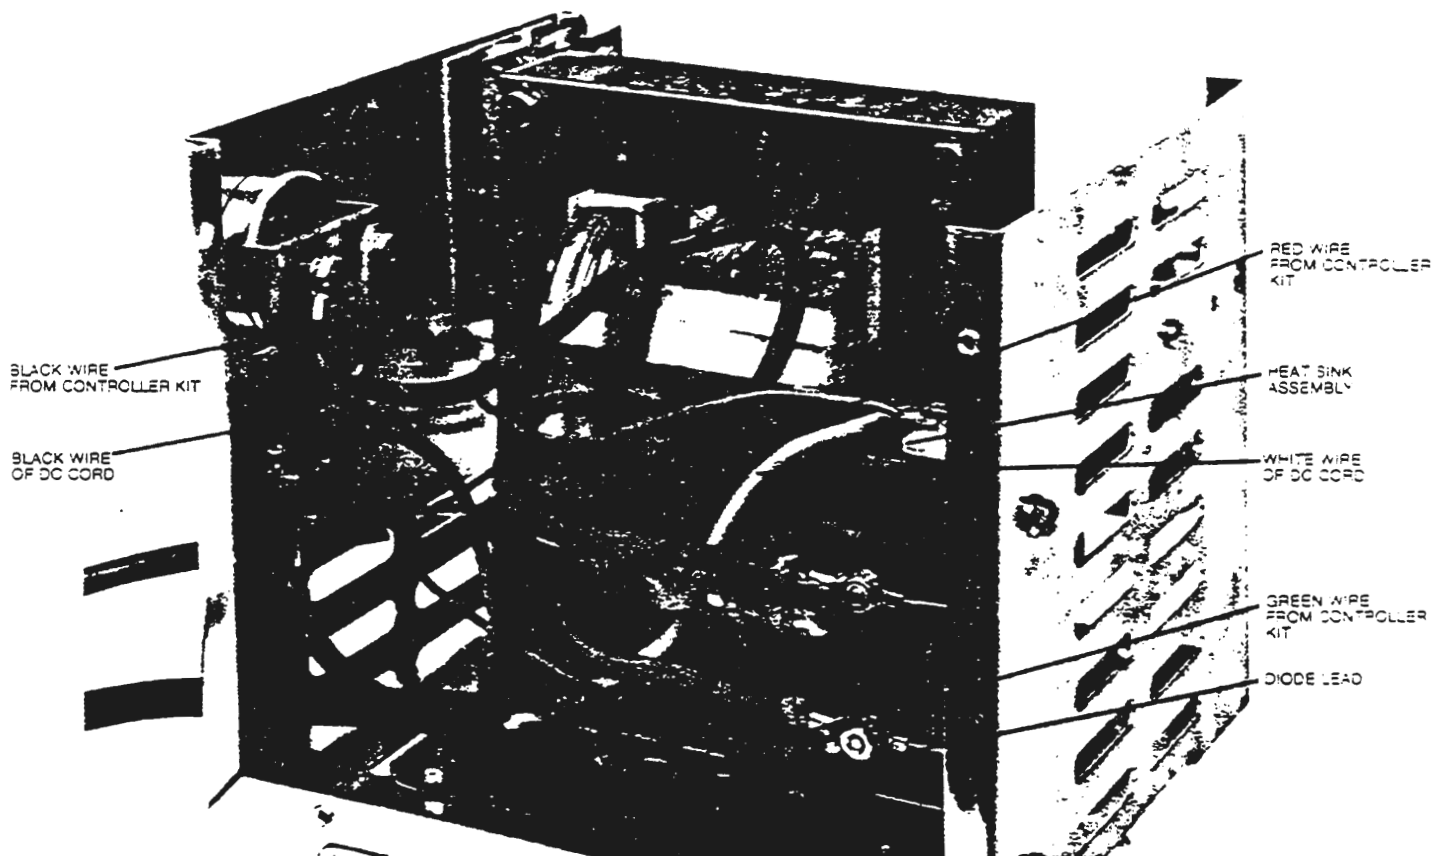

FIGURE 4
2. Disconnect the green, black, and red wires of the Electronic Timer Kit as shown in Figure 4. Then remove the black and white leads of the power supply cord and both primary transformer coil leads from the Electronic Timer Kit terminal tabs. The Kit can be removed by removing the three mounting screws on the charger front panel. Save all hardware for reassembly.